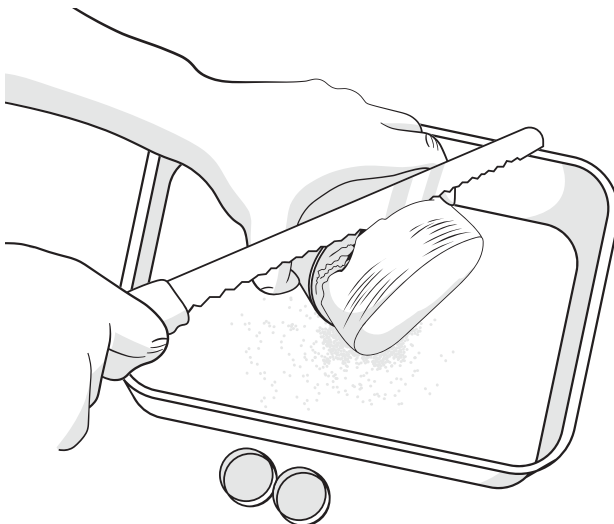

Figure 102 Cut the sample in half with long, sharp knife
9. Cut the sample in half with a long, sharp knife (Figure 102).